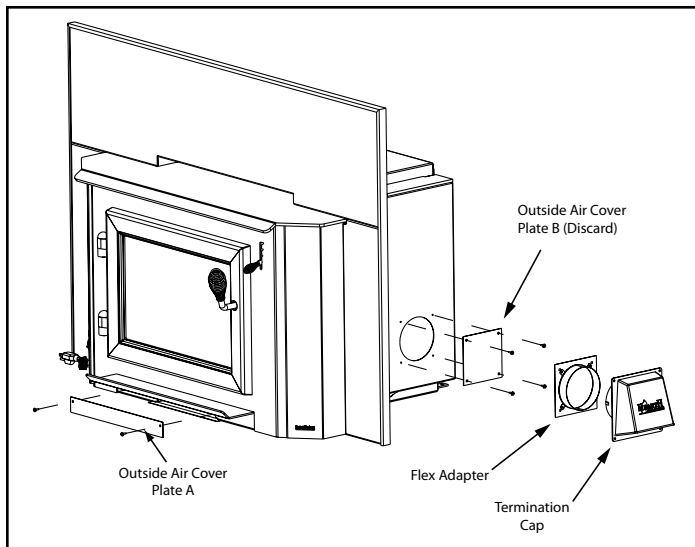

Figure 13
1. Remove the Rear Outside Air Cover Plate on outer can and discard; reserve screws (**Figure 13**).
4. Remove the outside air cover plate B on outer can and discard (**Figure 13**).
5. Install Front Outside Air Plate; this is found in component pack of your appliance, using two (2) screws from the step 1 reserved screws.